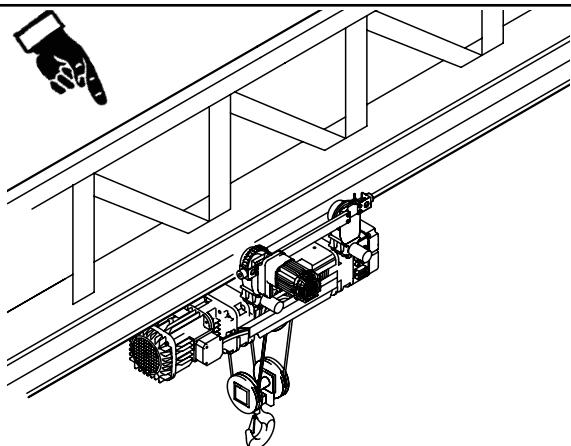

fig. 118
- **ALWAYS** check the suitability of the structures which support the hoist and trolley (fig. 118).